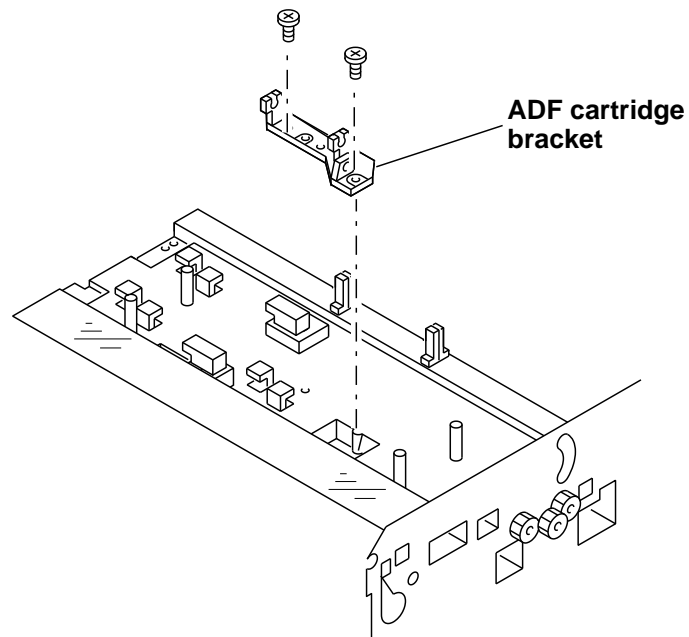

Figure 9. ADF cartridge bracket removal
- a. Remove two securing screws (Figure 9), and remove bracket.